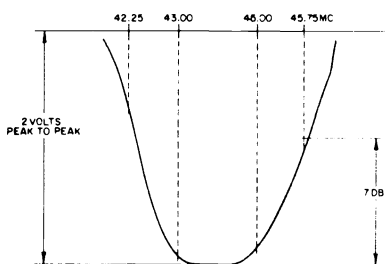

Figure 16 - Typical IF response, Mixer Amp grid to 2nd Det.
| 5. | Connect sweep generator to TP ⑩ at 44.25 MC. Couple CW generator with marker at 44.25 MC to sweep generator cable. Keep marker amplitude low to avoid distorting response. Adjust scope for 2V PP. | Mixer output coil for maximum amplitude. T200 for "rocking symmetrical response with waveshape and markers" as shown in Figure 16. |